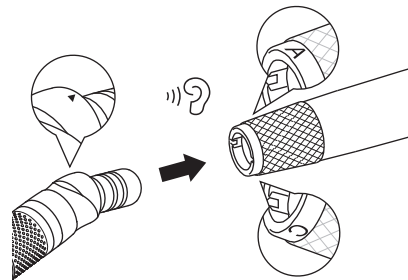

Fig.2
- 2 Align the '▲' symbol of the attachment/handpiece with the 'A' or 'C' symbol (either one) of the motor (Fig. 2). Then push the attachment/handpiece firmly into the motor until it clicks.